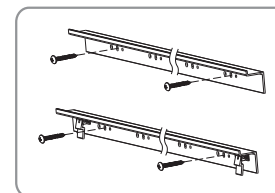

Figure 19
- Wood wall mounting: to fix the brackets onto the wall using 4 provided Wooden screws  $\varnothing 5 \times 40$ , two screws for each bracket. (Figure 19)